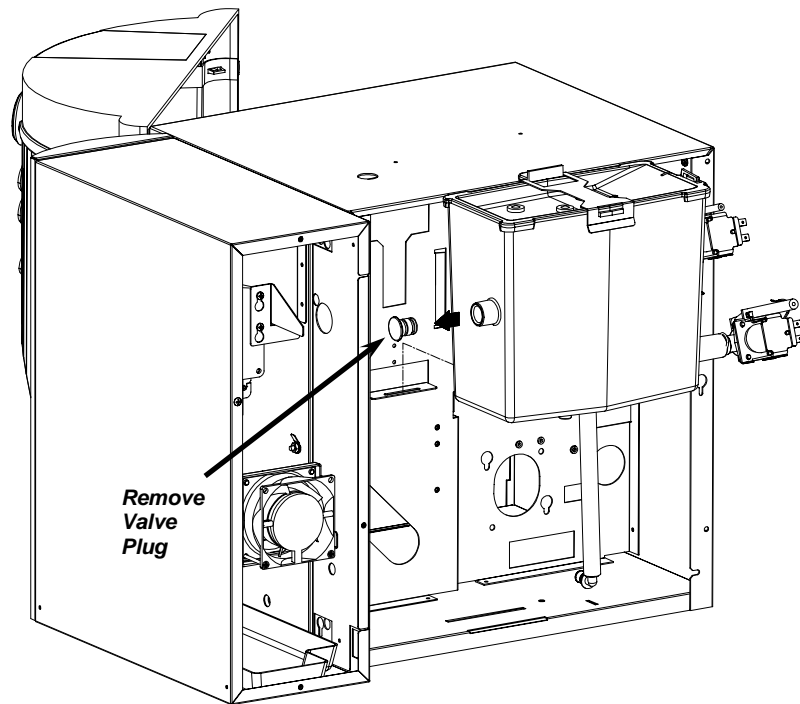

Figure 3 – Remove valve plug from water tank.
1. Remove the plug from the valve port on the side of the water tank (*Figure 3*).